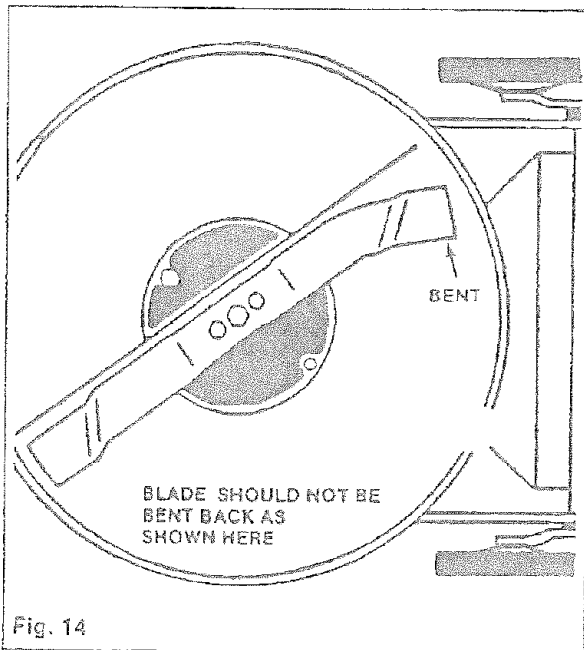

Fig. 14
- Cutter blade must be straight (see Figure 14). Any impact severe enough to bend a blade has also caused microscopic cracks in the blade. Bent blades should be replaced because the cracked portions could break off, becoming dangerous and capable of inflicting serious injuries.